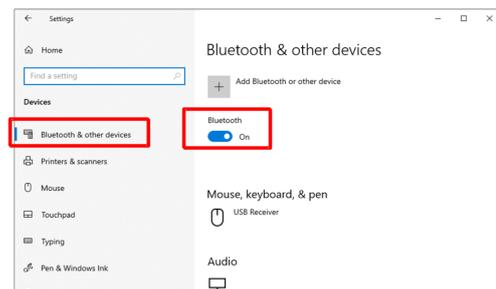

Figure 13: Bluetooth toggle button
3. Click on **Bluetooth and other devices** – *Figure 13*.
4. Set the **Bluetooth** toggle button to **On** – *Figure 13*.